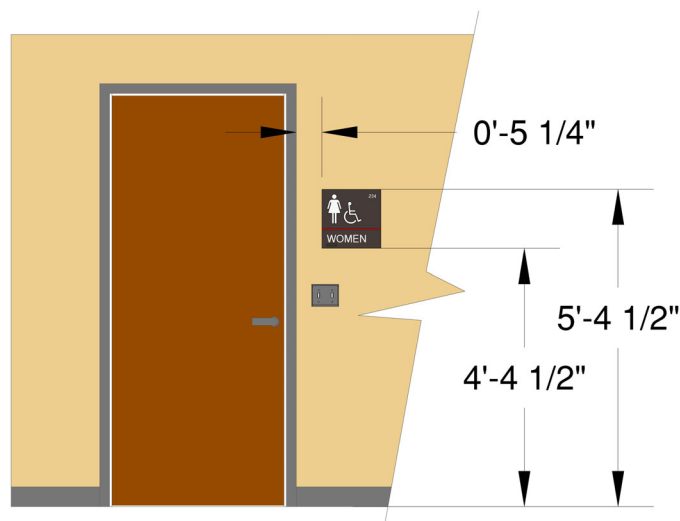

Figure 31.9
- 31.8. Accessible restroom identification signs shall comply with figure 31.9.